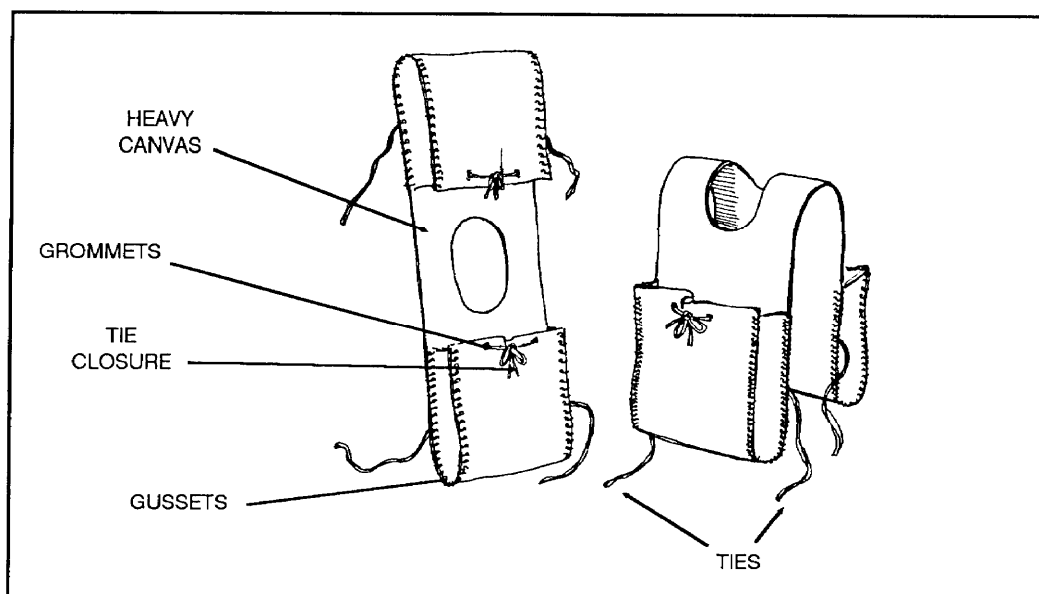
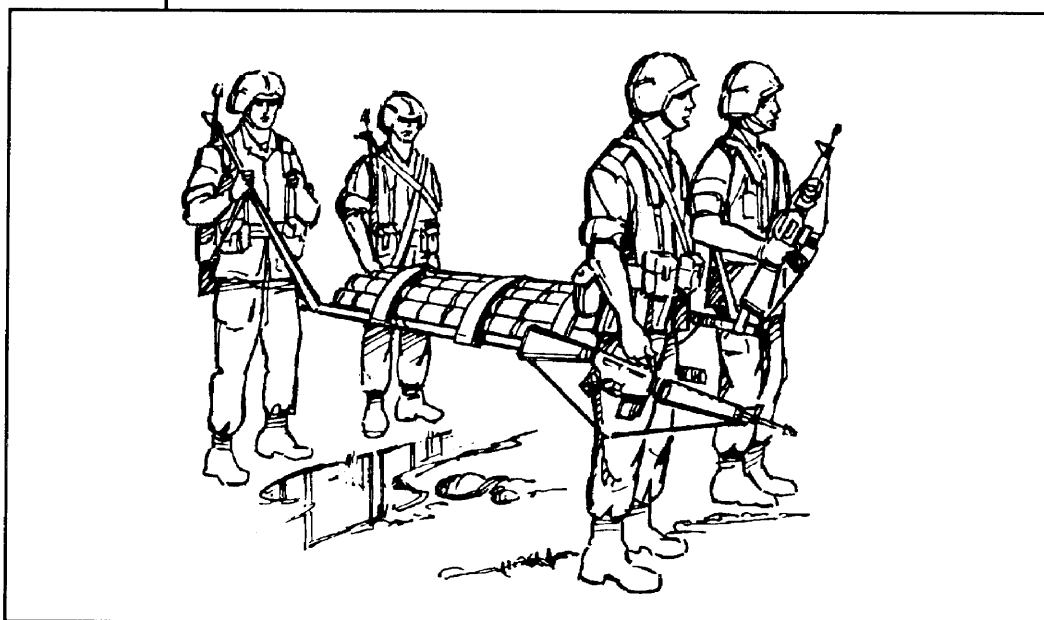

Figure 8-10. Locally fabricated load-carrying vest.
Figure 8-11. Use of litter and universal slings.
(3) A canvas repair unit can also fabricate a simple ammunition carrying vest. This type of vest, the M2A1 ammunition bag, was issued to World War II and Korean War 60-mm mortar crews, but it is no longer standard. The vest consists of a piece of sturdy canvas cut and sewn as indicated in Figure 8-10, see page 8-24. Simple adjustment straps or ties secure the vest and ammunition. The hole for the head must be cut large enough to slip over the helmet and protective mask. The vest is worn over the combat load. Fiber containers of mortar ammunition are stacked horizontally both front and back.
(4) One or two 60-mm mortar rounds can be carried in an empty Claymore mine bag. This method is good to use when other members of the company must carry other mortar rounds for the section. The bags can easily be taken off and dropped at the mortar position when needed. They can just as easily be handed back out again if the ammunition is not fired.
(5) For carrying mortar ammunition short distances, a standard Army litter can be used. A detail of two to four men can carry large amounts of mortar ammunition over rough terrain by lashing it to a litter and using universal slings to distribute the load (Figure 8-11, see page 8-24). Using the sling frees the hands to carry weapons or negotiate obstacles. This method is useful in circumstances where an ammunition resupply vehicle can approach near the mortar section location, but large amounts of ammunition must still be carried the last few yards. Carrying the ammunition in one or two trips by using a litter reduces the time that the carrying party is exposed to enemy observation or fire. Medical personnel should not be used to transport ammunition since doing so violates their status as noncombatants.